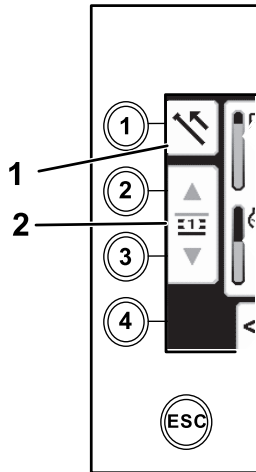

Figure 13
1. Push button 1 to select the pull pipe option (Figure 13).
2. Push buttons 2 and 3 to select the row where you want to place the pipe (Figure 13).